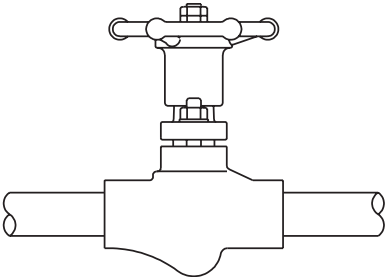
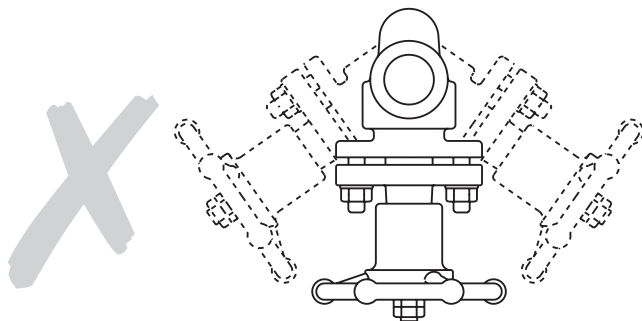

Fig. 3 Correct orientation for installation
Fig. 4 Incorrect orientation for installation
- 3.1** Install the valve in the direction of flow given by the arrow on the body. The preferred position is with the spindle vertical. The valve can be installed from the vertical to the horizontal plane (see Figure 3 opposite). **Do not mount the valve upside down (Figure 4).**